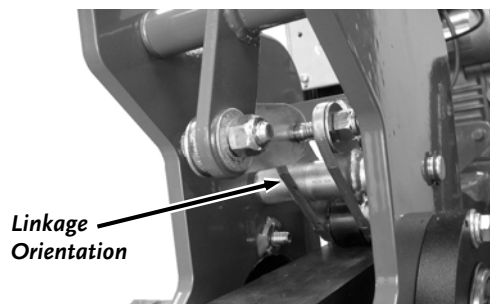

Figure 31
7. Position the linkage assembly into the Frame in the correct orientation (**Figure 31**) and install the Pivot Pins and Retaining Rings.